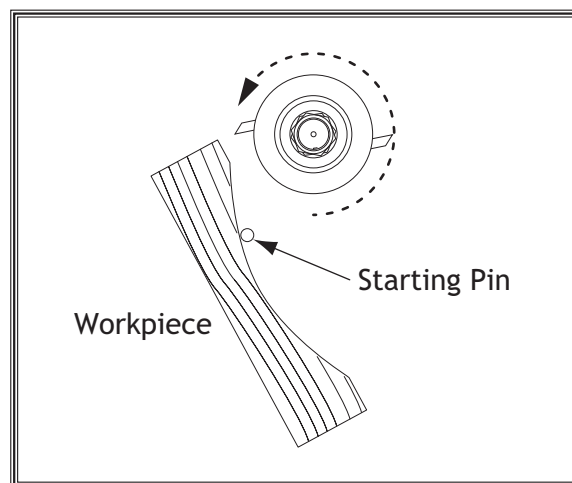

**Figure 7.** Rub collar positioned above moulding head.
Rub collars can be positioned on top (see **Figure 7**) or below the moulding head, depending on the type of work. Plan ahead and determine which rub collar position will work best for your needs.
3. Choose appropriate moulding knives, secure in moulding head (refer to **Installing Knives** on **Page 2**), then install rub collar and spindle nuts (see **Figure 7**).